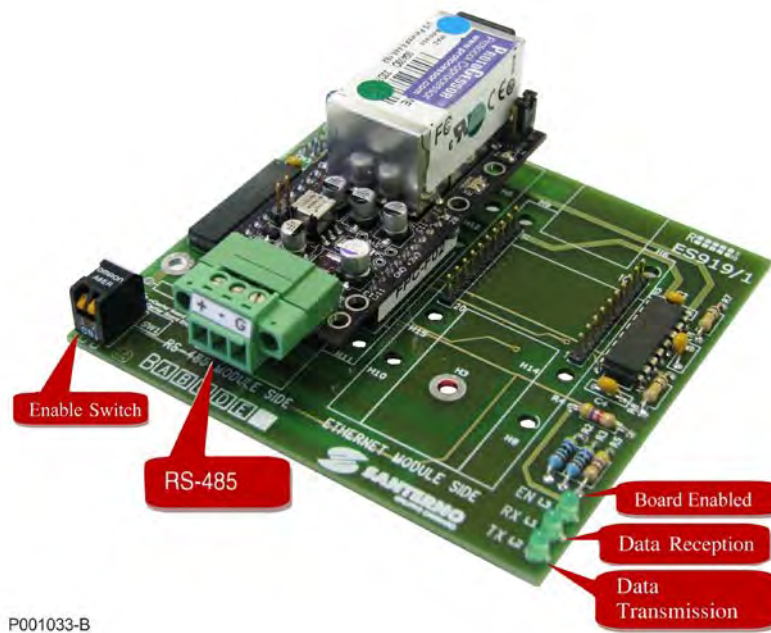

Figure 180: ES919 Board for BACnet/RS485
12. Mount the BACnet device in the way shown in Figure 180.